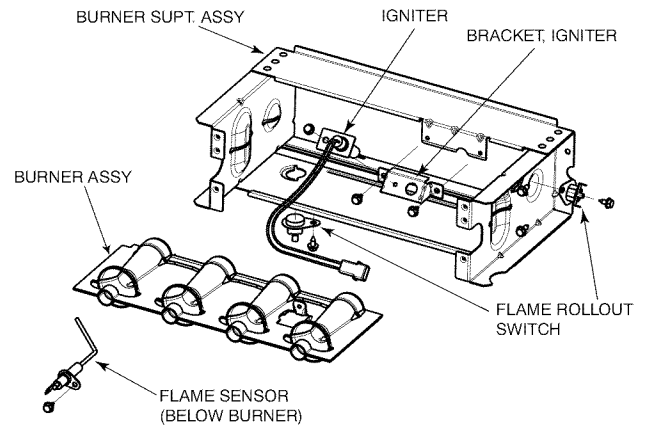

Fig. 3 - Burner Assembly
6. Remove the flame sensor from the burner assembly. See Fig. 3.